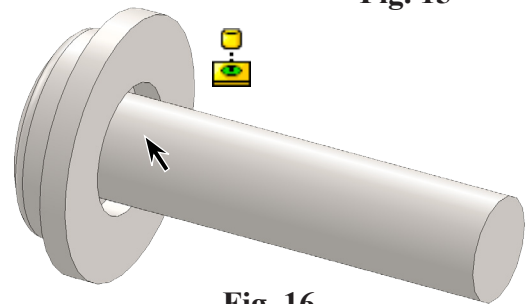

Fig. 16
Step 5. Position cursor **near shaft of machine screw at underside of head**, **Fig. 16**. When Washer snaps into screw shaft, against underside of head and cursor changes to indicate a Concentric and Coincident mate , click to release Washer.